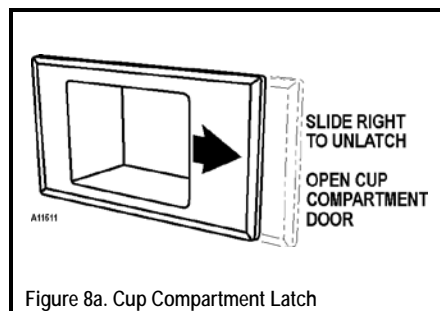
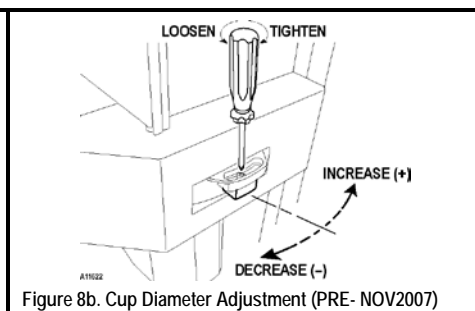

Figure 8a. Cup Compartment Latch
Figure 8b. Cup Diameter Adjustment (PRE- NOV2007)
1. Open the cup compartment door by sliding its plastic latch to the right. See Figure 8a.
3. While facing the back of the door, find the cup dispenser adjustment screw located on the right side of the cup dispenser. Use a Phillips screwdriver to loosen the screw. **DO NOT** remove the screw. See Figure 8a & Figure 8b